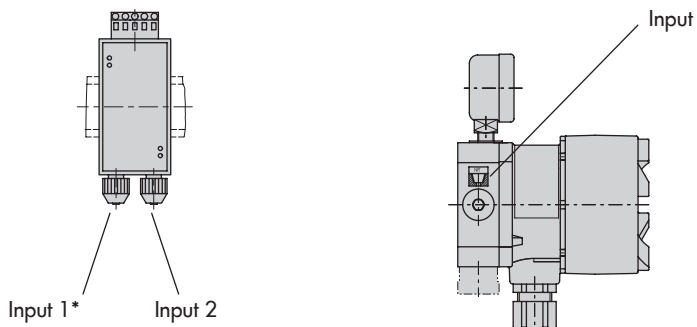

Fig. 5-3: Supply air line (input signal)
- Connect the air line from the upstream pneumatic device issuing the positioning value to the hose connection (see Fig. 5-3).
- Connect the supply air line to the air connection (input). See Fig. 5-3.